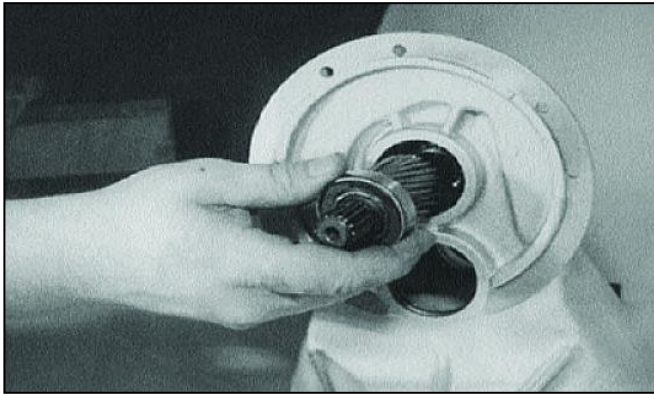

Figure 7-18
- See Figure 7-18. Install input shaft (9). Bearings (6, 7) and shaft should slide easily into housing. If resistance is encountered, use a plastic or leather mallet to tap shaft into position.